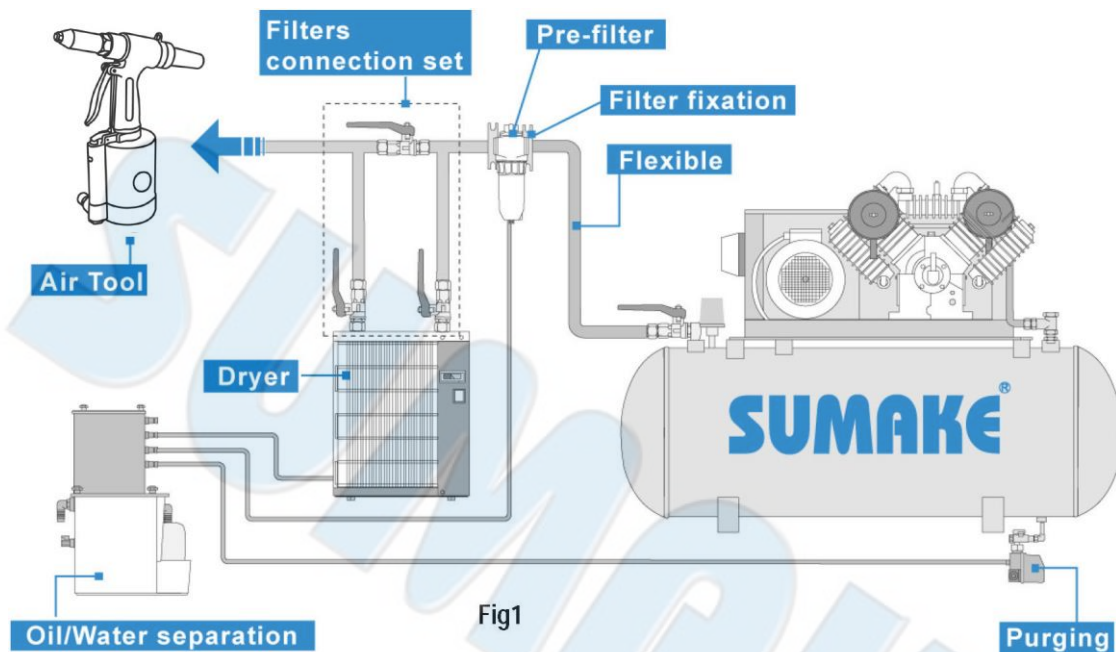

Fig1
3. Please refer Fig.1 illustration shows the correct mode of connection to the air supply system which will increase the efficiency and useful life of the tool.
1. Dry the filter (fig1) and the air inlet of the tool.